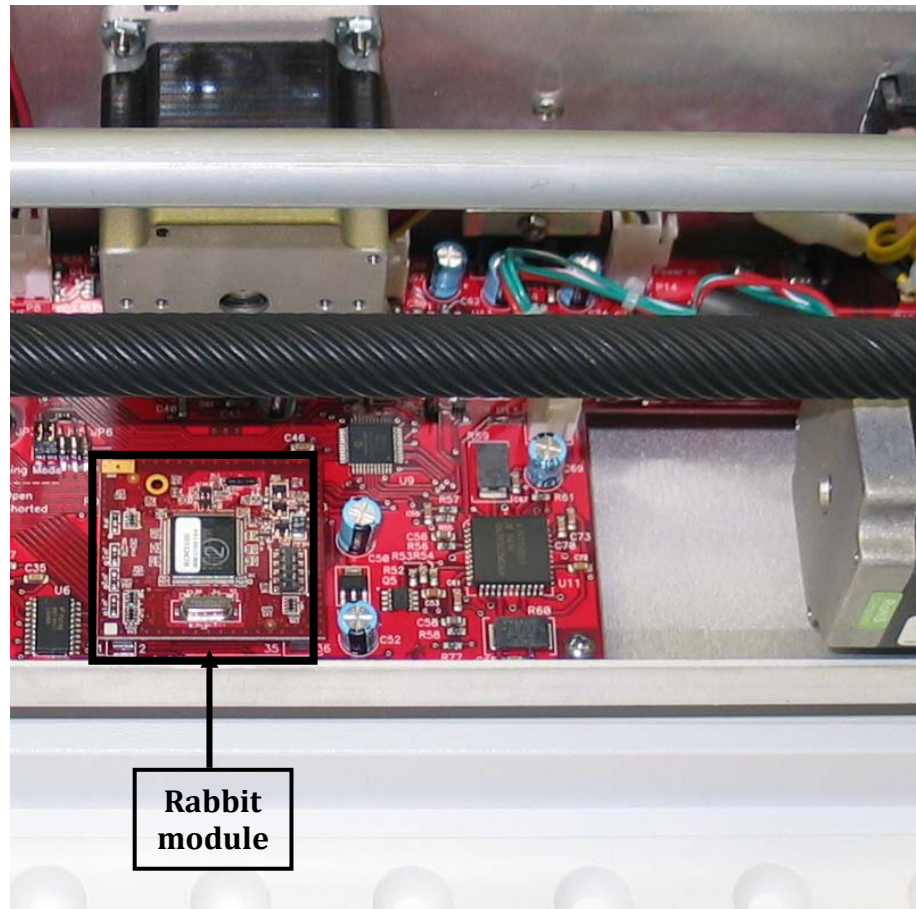
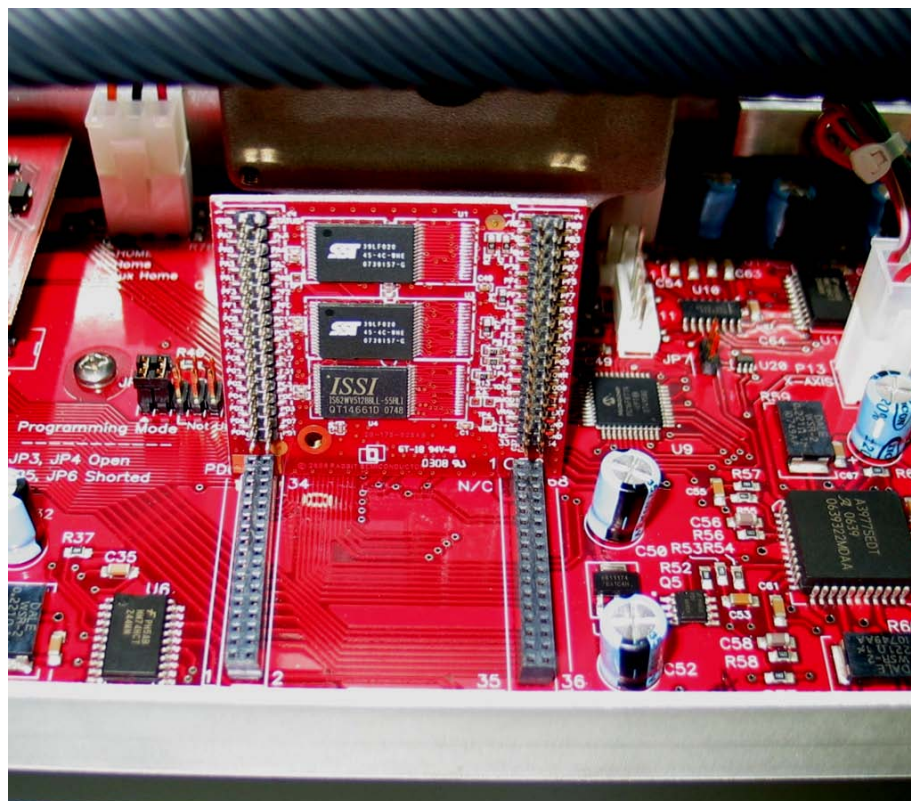

Figure 1-26 Rabbit module location on mainboard (ASX-520/ASX-520HS).
Figure 1-27 Rabbit shown removed and placed to show pin orientation (ASX-520/ASX-520HS).
5. Remove the existing Rabbit processor module from the main board (See Figure 1-26 for location of Rabbit module) by pulling straight upward and firmly on the Rabbit module, gripping it by the sides. Do not use any tools to remove the module, as damage to the module and/or main board WILL result. See Figure 1-27 for photo of Rabbit module removed from mainboard.